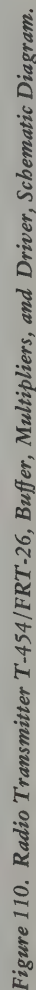

Figure 110. Radio Transmitter T-454/FRT-26, Buffer, Multipliers, and Driver, Schematic Diagram.
- (1) *Buffer and frequency multipliers (fig. 110).*
(3) *Driver* (fig. 110).